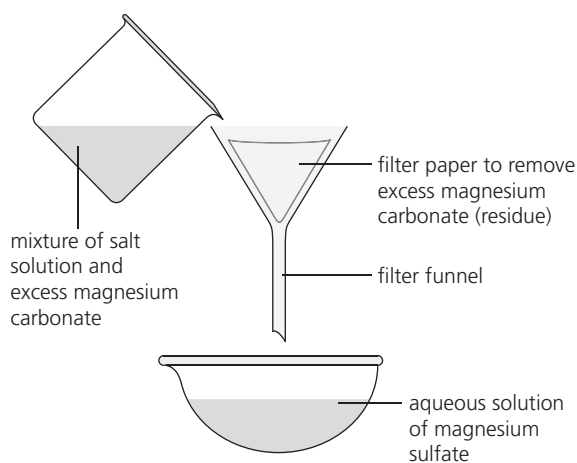

Figure 5
- 4 Filter the contents of the beaker, using a funnel and filter paper, allowing the filtrate to run into an evaporating basin until it is half full (Figure 5). The residue will collect in the filter paper.